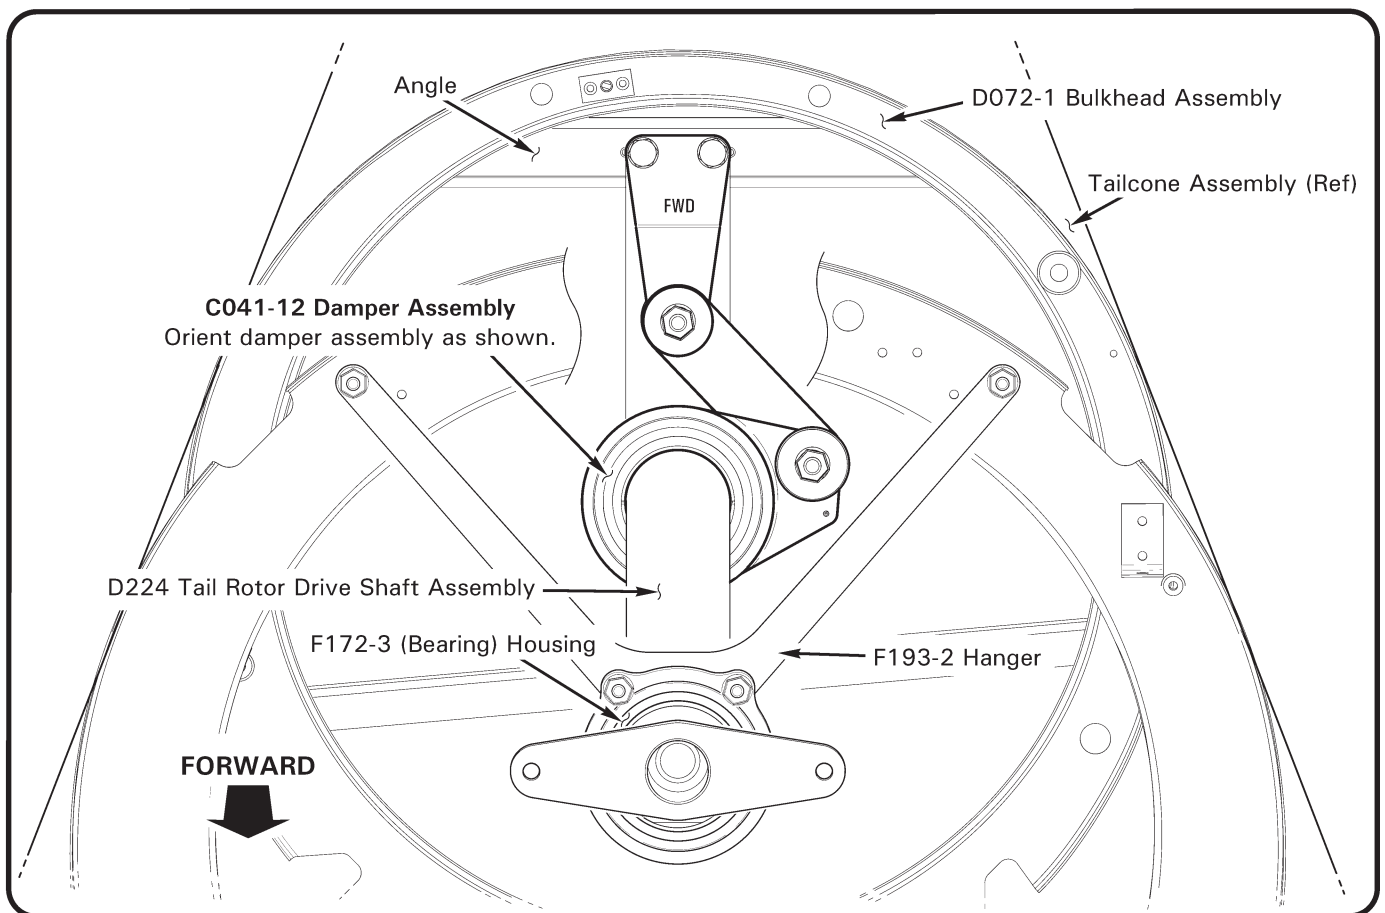

FIGURE 65-3 DAMPER ORIENTATION
Refer to R66 Illustrated Parts Catalog (IPC) Figure 65-3.
3. Refer to Figure 65-3. Using a 3-foot extension, remove bolts securing C041-12 damper assembly arm to D072-1 bulkhead assembly angle. Support forward end of D224 drive shaft assembly.
3. Refer to Figure 65-3. Remove forward A231 (tailcone) plug assembly. Estimate longitudinal gap (or interference) between C041-12 damper assembly arm and D072-1 bulkhead assembly angle. If gap (or interference) exceeds 0.12 inch, contact RHC Technical Support. If gap (or interference) is less than 0.12 inch, verify correct damper orientation. Using a 3-foot extension, install bolts securing damper to bulkhead angle. Standard torque bolts per § 20-32 and torque stripe per Figure 5-1. Install plug assembly.